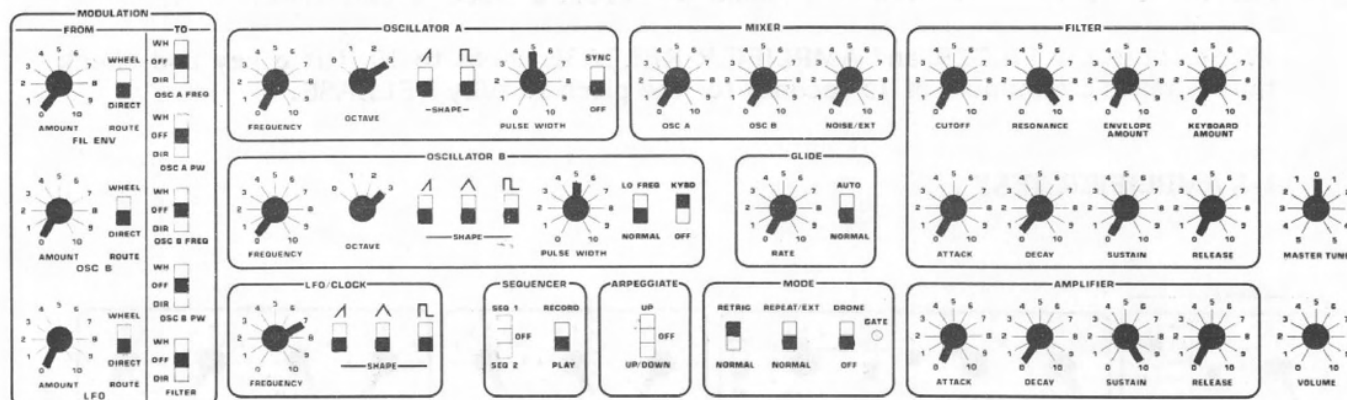

Figure 1-5
1. Patch according to Figure 1-5. NOTE: Unless you play staccato or switch to RETRIG mode, the envelope generator will not retrigger